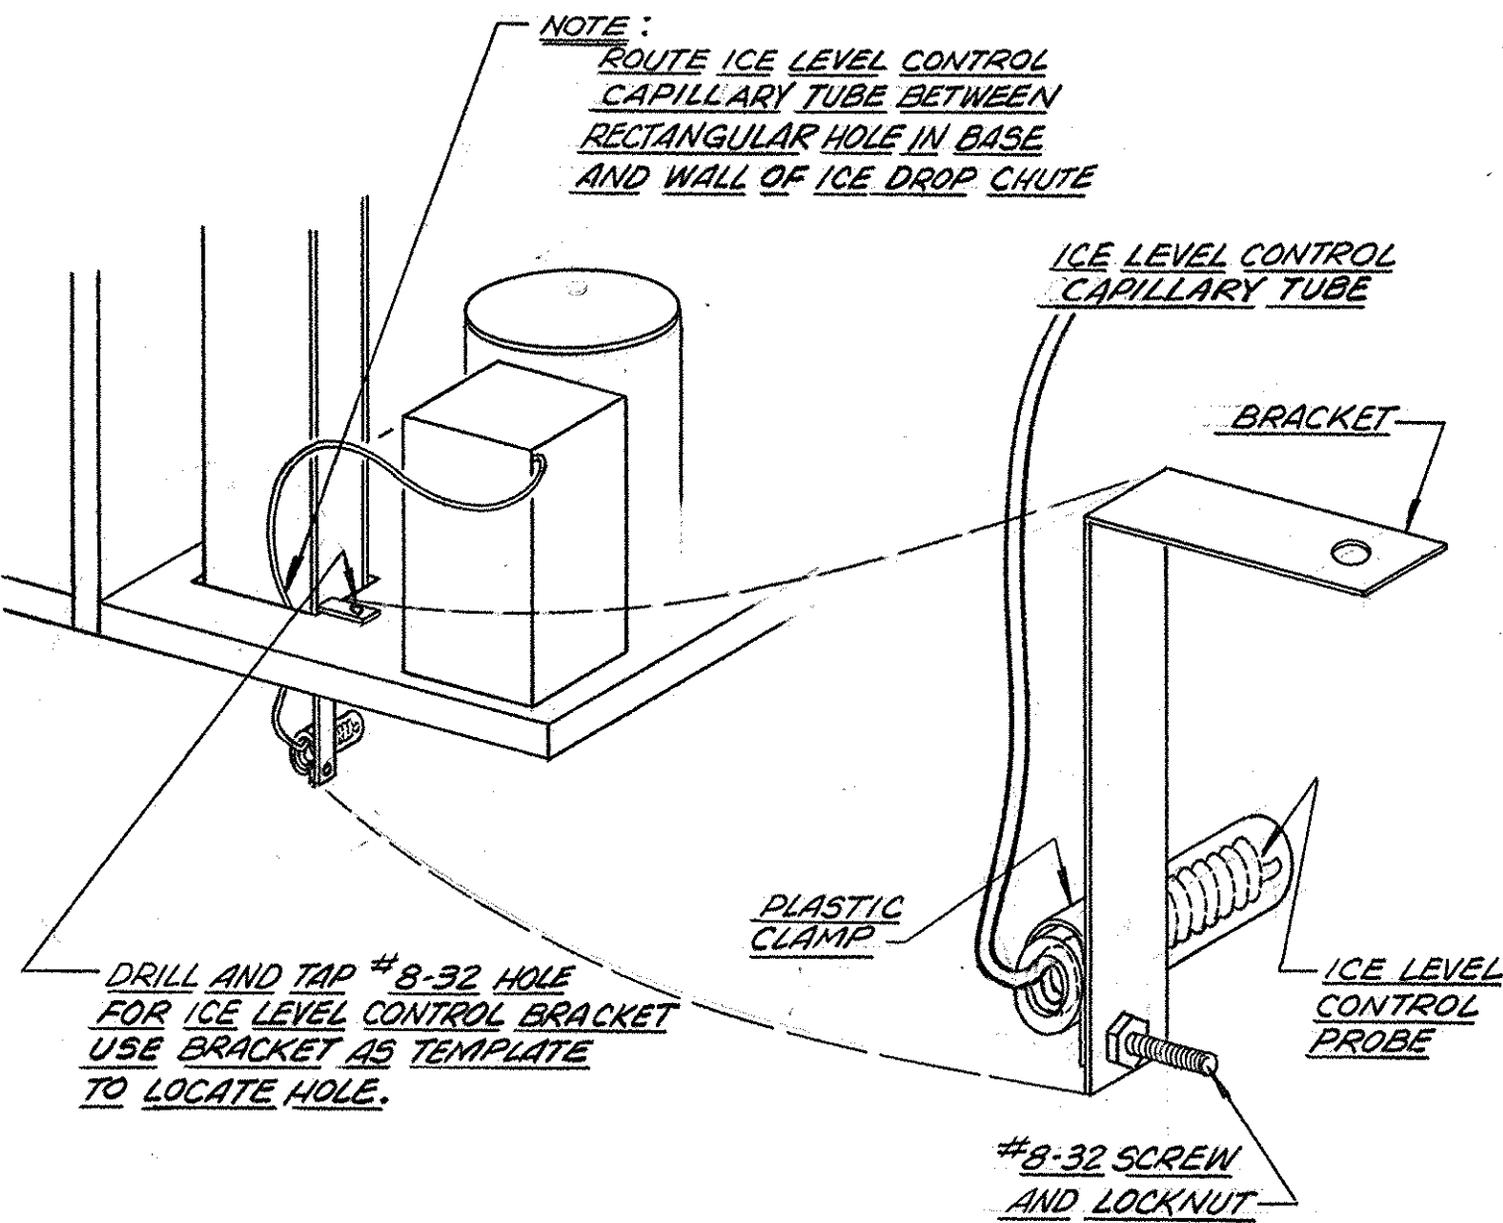

FIG. 2
- E. Using the top covers as templates, locate and drill (4) .136 dia holes (#29 drill size) in left and right sides of dispenser cabinet.
- F. Secure top covers to dispenser with (4) sheet metal screws provided.
5. Drill and tap #8-32 mounting hole in icemaker base for ice level control bracket as shown in Fig 2.
7. Secure ice level control bulb to mounting bracket with plastic clamp and mount to icemaker base (see Fig 2).